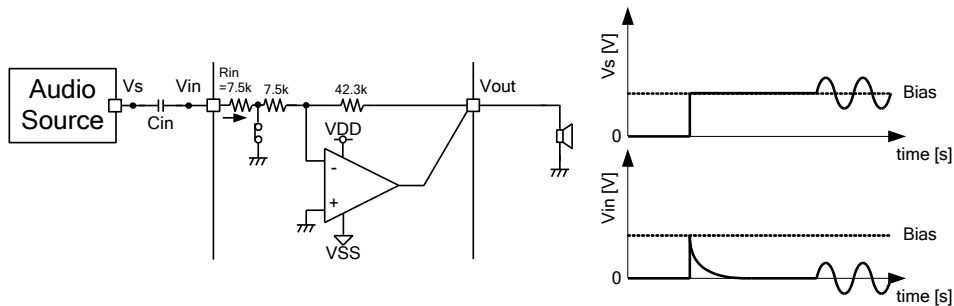

Figure 31. Fluctuation of input terminal voltage when charging input coupling capacitor
① The term from “PVDD, SVDD : ON” to “shutdown ON->OFF”
When power supply (PVDD, SVDD) is applied, it is started that charging input coupling capacitors. Therefore, the input terminal voltage “Vin” is changed as following Figure 31. Time constant “τ” of charging input coupling capacitor is decided by input coupling capacitor Cin and Internal input impedance Rin (See formula (1)). Internal impedance Rin in term of shutdown is 7.5kΩ (typ) for making time constant τ shorten. If “SDB” is changed “L” to “H” (shutdown ON -> OFF) during input DC voltage (Vin) is changing, pop noise may occur. It is recommended that shutdown ON -> OFF (“SDB” : L -> H) after 5τ ~ 6τ.